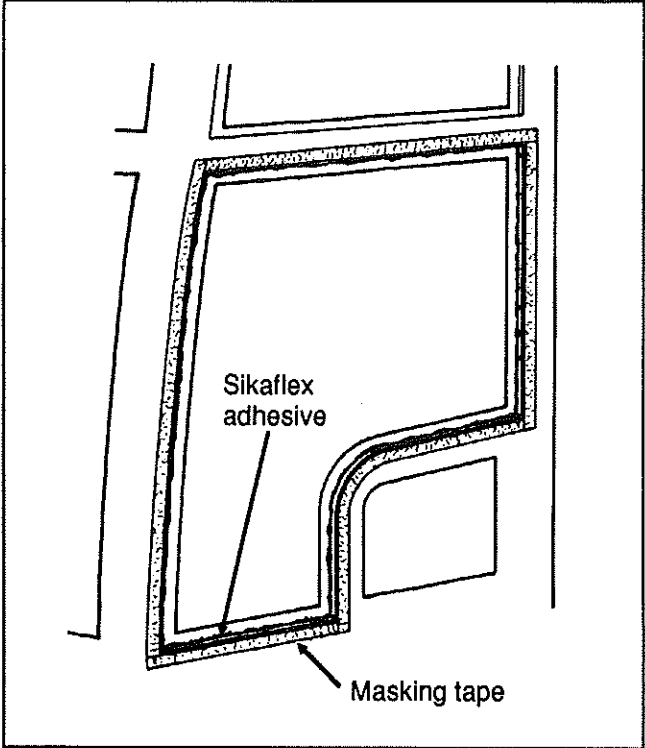

Fig. 28
8. Apply a generous bead of Sikaflex-255 FC polyurethane adhesive (68-1092) on the sealing surface around the window opening from outside the vehicle. See figure 28.